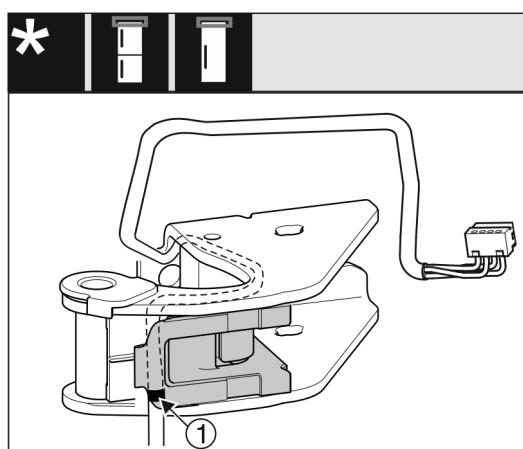

Fig. 16
- The middle marking must be positioned on the edge of the cable holder Fig. 16 (1).